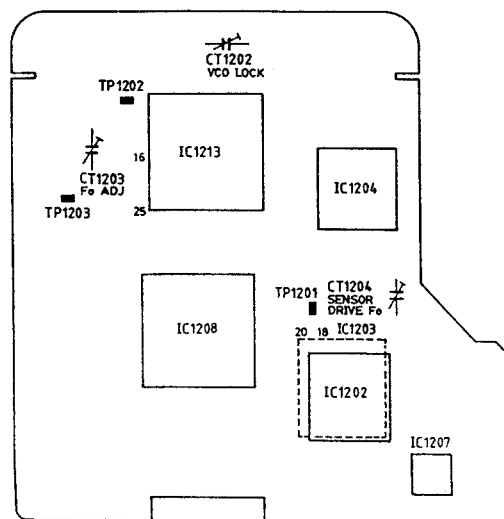

Fig. 4-6 Process (PC) Circuit Board
### 1. Subcarrier Frequency Confirmation (Fig. 4-6)
### (2) VCO Lock Voltage Confirmation (Fig. 4-6)
### (3) Sensor Drive Pulse Frequency Confirmation (Fig. 4-6)